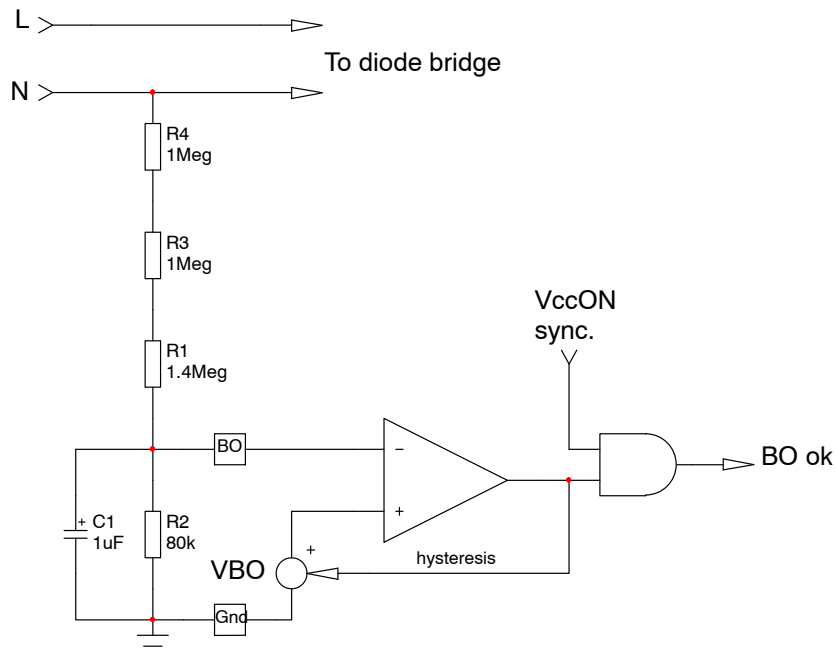

Figure 35. A simple comparator monitors the input voltage via a single pin. When this voltage is too low, the pulses are stopped and the V_{cc} hiccups
Brown-out (BO) is a means to protect the converter against an erratic behavior that can occur at the lowest input voltage level. By safely stopping the output pulses when the mains is below a predetermined value, the converter prevents thermal runaway, greatly improving its robustness. Brown-out protection is another way to avoid an erratic hiccup mode when too low an input voltage limits the power delivery. Some applications, such as printer power supplies, forbid this kind of operations and impose a clean stop. In that case, brown-out detection/protection is the way to go. Figure 35 shows a simplified version of what is implemented in the controller.
From the above schematic, the calculation of the resistor is straightforward. We have connected the resistor to the input line and thus observe a single-wave signal peaking to $V_{in,peak}$. The average voltage seen on top of R_4 in Figure 35 is: